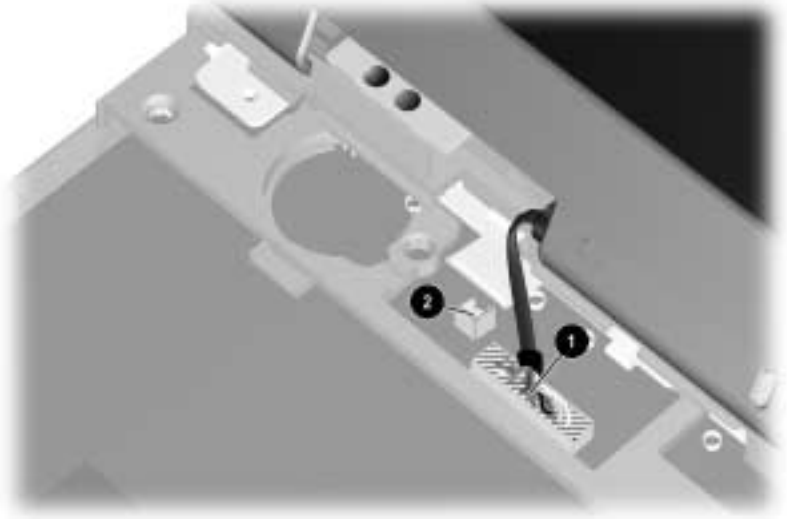

Figure 5-27. Routing the Display Video Cable
When installing the display assembly, make sure the display video cable ❶ is routed behind the left speaker connector ❷ on the system board (Figure 5-27).